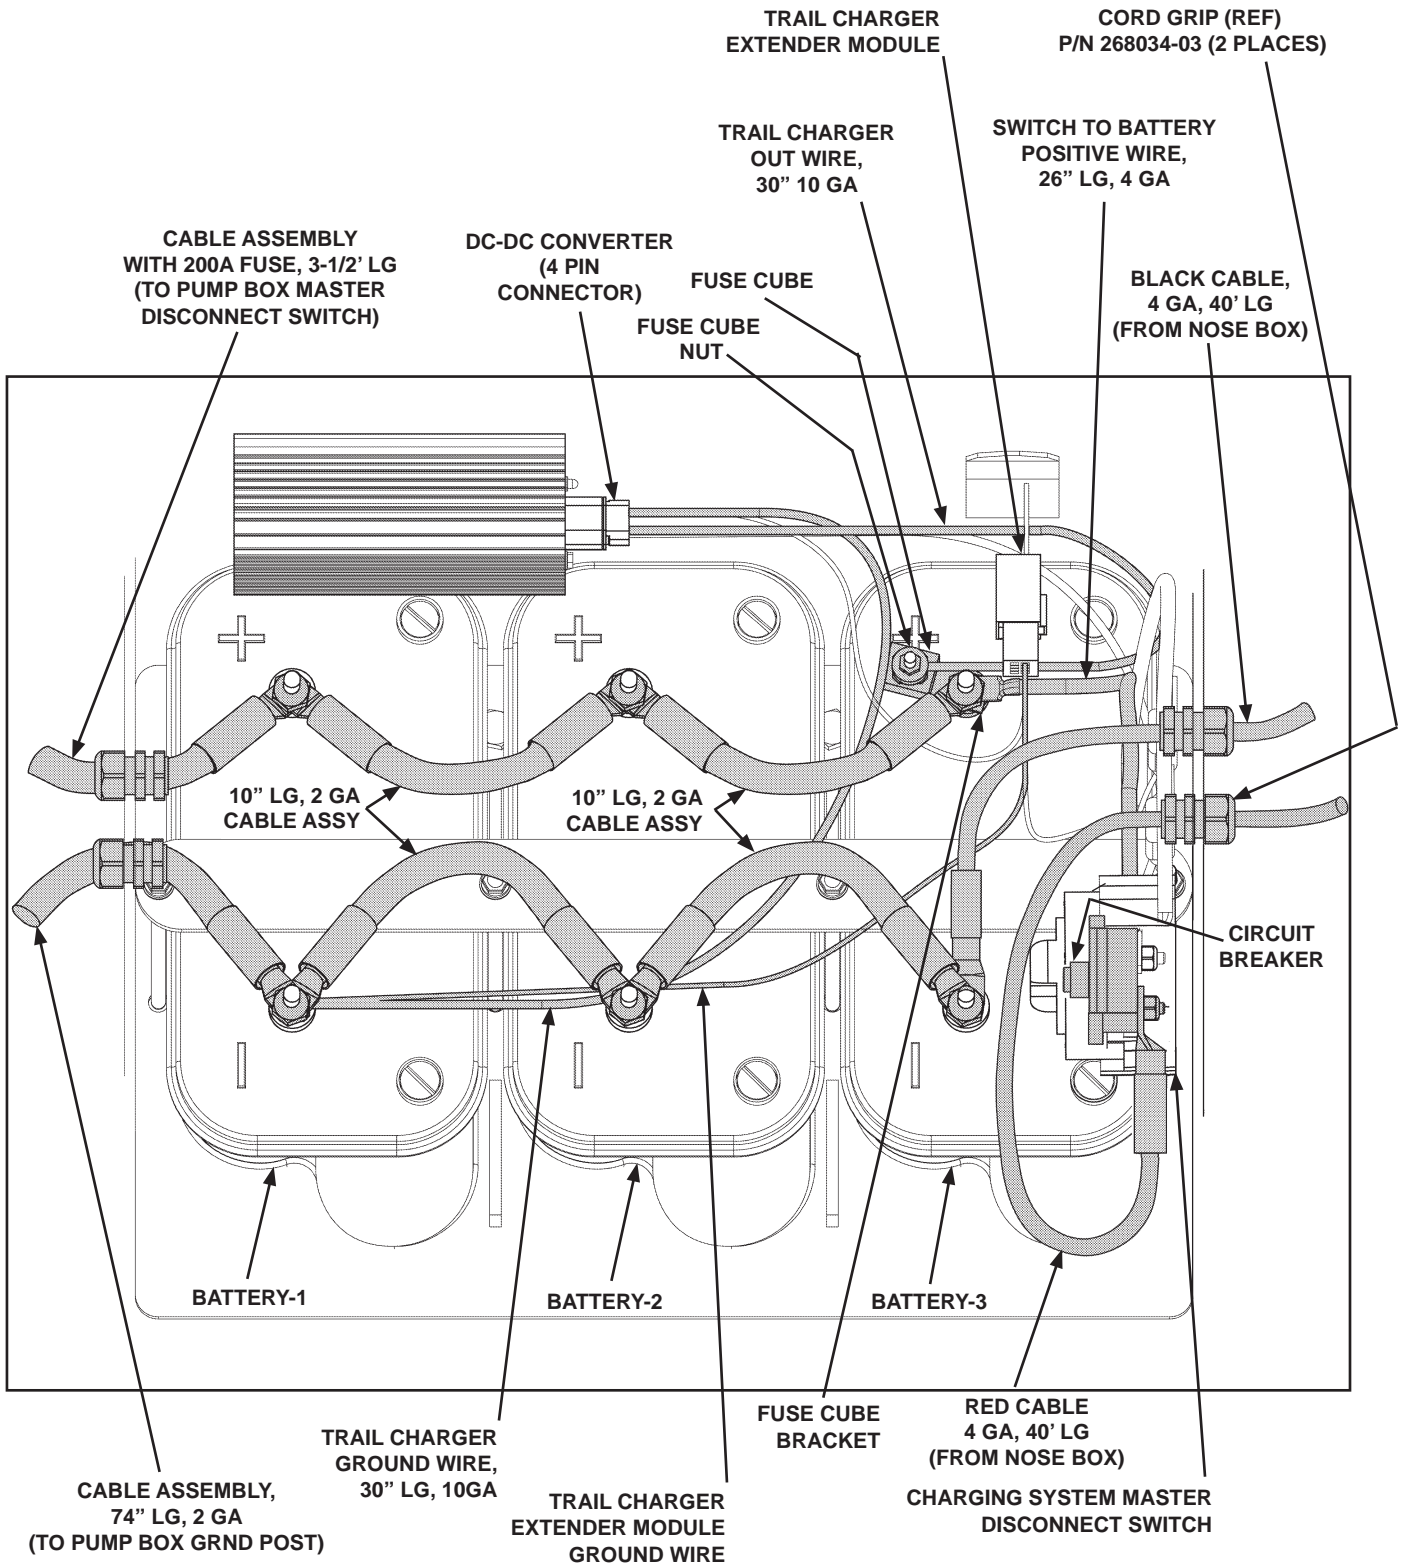

FIG. 8-1
5. Connect the 74" long, 2 gauge cable (kit item) to ground post on pump box. (Refer to Installation Manual.) Next, run ground cable to battery box. Then, insert the free end of 74" long cable through cable grip at the LH side of battery box. Position free end of ground cable. Then, position free end of cable near negative (-) terminal of battery-1, but do not connect **(FIG. 8-1)**.
6. Insert the free end of 40" long red cable (from nose box) through cable grip at the RH side of battery box. Attach free end of red cable to circuit breaker **(FIG. 8-1)**. Then, insert the free end of 40" long black cable (from nose box) through cable grip at the RH side of battery box. Attach free end of black to negative (-) terminal on battery-3 **(FIG. 8-1)**.
7. Connect the 30" long, 10 gauge trail charger ground wire (kit item) from 4-pin connector to negative (-) terminal on battery-1 **(FIG. 8-1)**.
8. Connect the trail charger extender module ground wire to negative (-) terminal on battery-1 **(FIG. 8-1)**.
9. Attach fuse cube to fuse cube bracket **(FIG. 8-1)**. Connect trail charger out wire from 4-pin connector to fuse cube and secure with fuse cube nut **(FIG. 8-1)**. Connect fuse cube bracket to positive (+) terminal on battery-3 **(FIG. 8-1)**. Then, connect switch to battery positive (+) wire from charging system switch to positive (+) terminal on battery-3 **(FIG. 8-1)**.
10. Connect the three batteries in parallel with 10" long, 2 gauge cable assemblies **(FIG. 8-1)**. Connect positive (+) terminals first, then connect negative (-) terminals.
11. Attach 200 amp fused cable to master disconnect switch on pump box **(Installation Manual)** and positive (+) terminal on battery-1 **(FIG. 8-1)**.
12. Check that cables and wires are connected and secured to correct terminals **(FIG. 8-1)**. Then, connect ground cable to negative (-) terminal of battery-1.